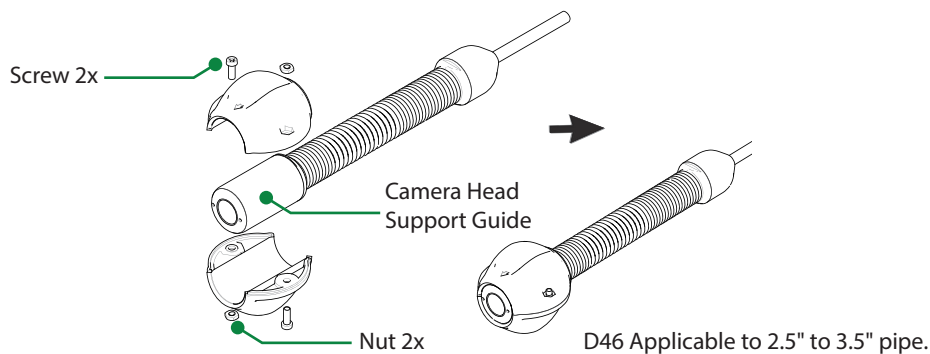

FIG. 9
- 1. Install 26 support guides (Figure 9).** Mount the 40 support guide onto the stainless steel camera head. Then tighten the screw with a screwdriver.